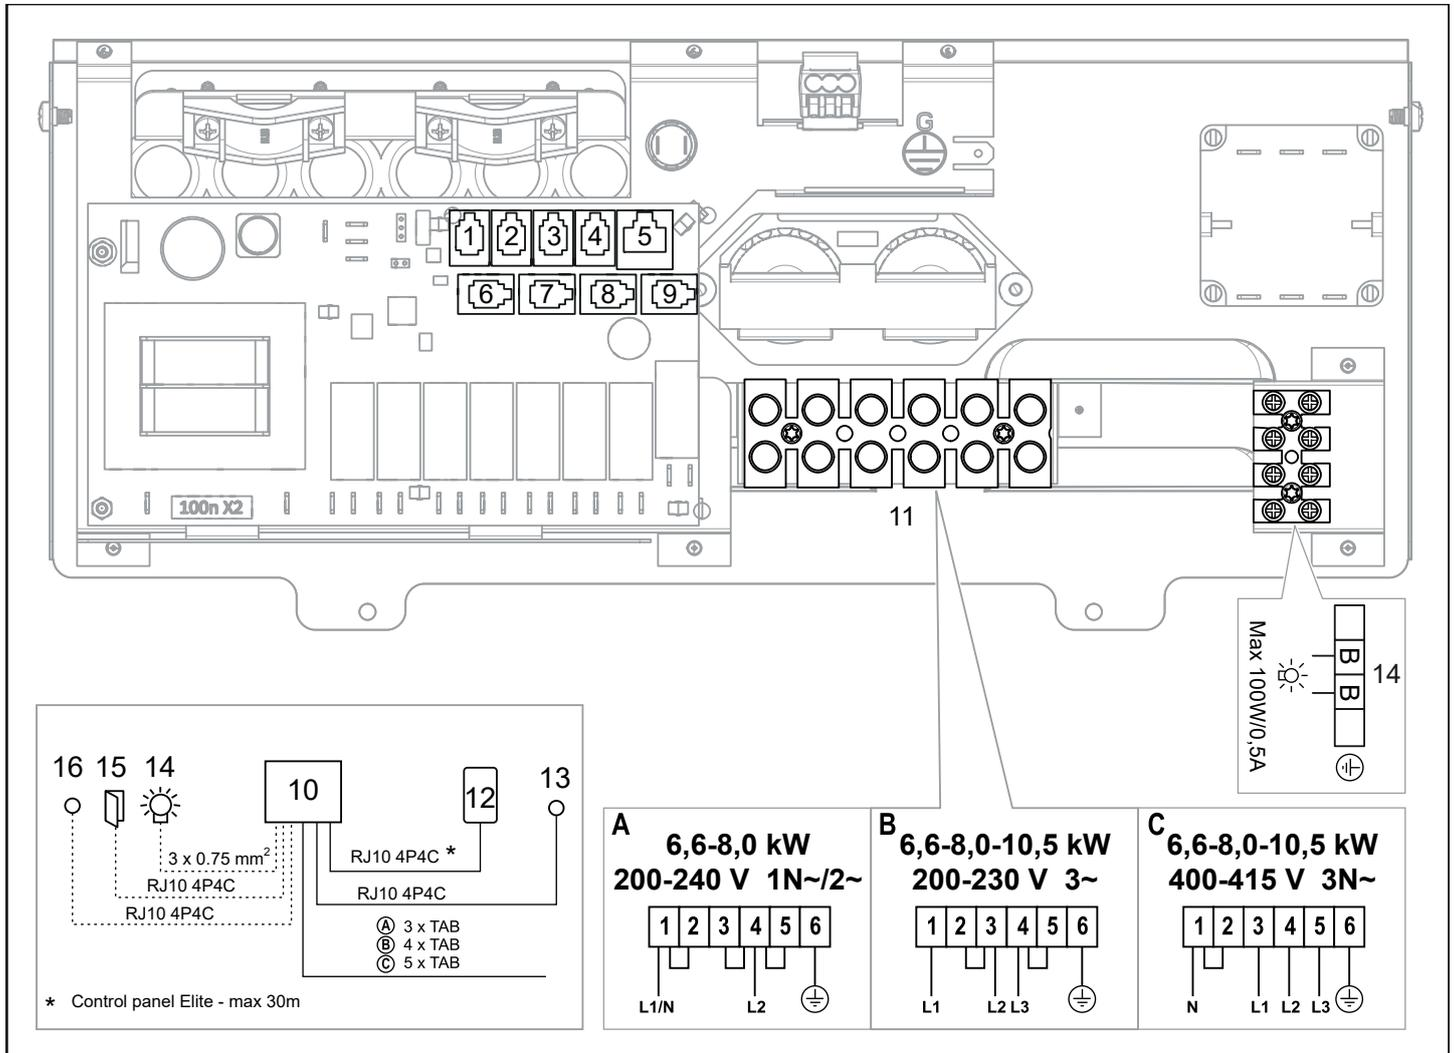

Figure 17: Wiring diagram
- Connect the sensor cable (6) to the NTC contact on the circuit board (position 1) (5) (see the Connection/wiring diagram section) according to the wiring diagram (see the Connection/wiring diagram section, page 15).
- Connect the light cable (if relevant) (7), see Figure 9, to the terminal (8) according to the wiring diagram Figure 17.
Contact Tylö Customer Service before connecting to voltages or numbers of phases that are not listed in the wiring diagram Figure 17.